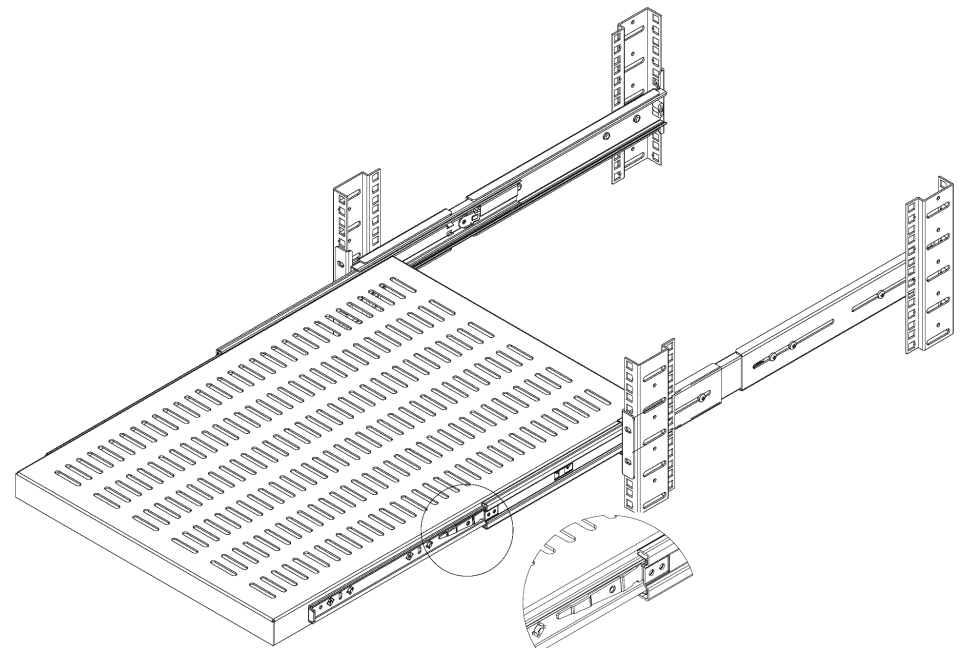

Figure 2
9. To put the **Sliding Shelf** back into position, engage both **Release Levers** (See Figure 2) at the same time and gently **Push** the **Sliding Shelf** back into the **Rack**.
10. (Optional) To remove the **Sliding Shelf**, **Fully Extend** the **Sliding Shelf**, and locate the **Release Levers** (See Figure 2) on the sides of the **Sliding Shelf**. Engage both **Release Levers** at the same time and **Pull** the **Sliding Shelf** out of the **Rail Assemblies**. Repeat **Step 6** to install the **Sliding Shelf**.